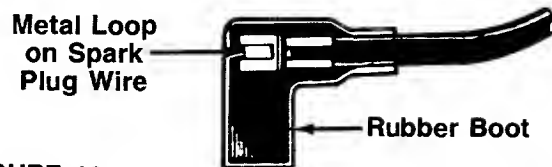

FIGURE 16.
1. Attach spark plug wire to spark plug. If unit is equipped with a rubber boot over the end of the spark plug wire, make certain the metal loop on the end of the spark plug wire (inside the rubber boot) is fastened securely over the metal tip on the spark plug. See figure 16.